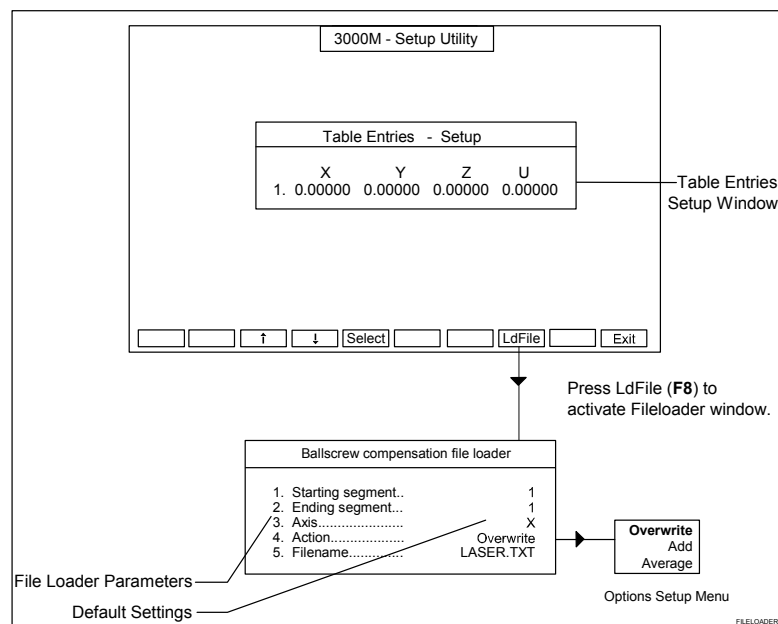

Figure 2-1, Displaying the File Loader Menu
1. See Map 3, Table Entries Setup, Menu G. Refer to **Figure 2-1**.